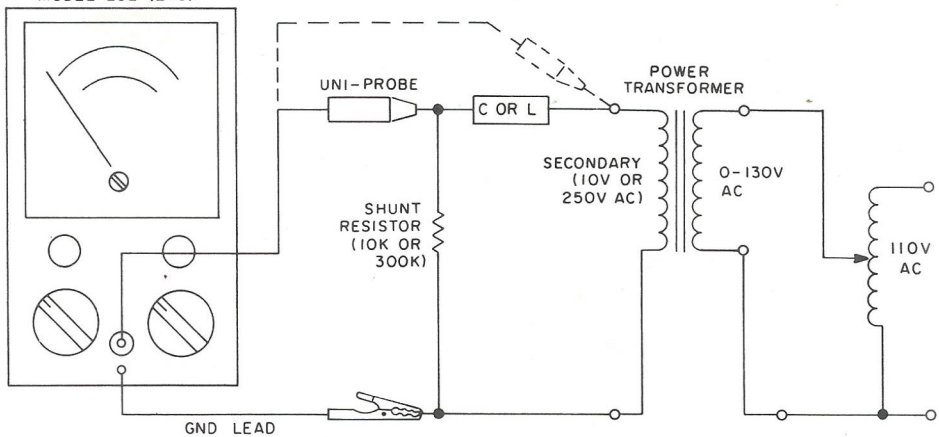

FIGURE 2
1. Set up the Model 232 (249) and the external power source as shown in figure 2.
4. With the capacitance or inductance in series with the secondary of the power transformer as shown in figure 2, read the voltage on the meter; then refer to table 1 (capacitance of .009 MF to 1 MF), table 2 (capacitance of .0001 MF to .03 MF), or table 3 (inductance of 5H to 1000H) to obtain the corresponding value of capacitance or inductance.